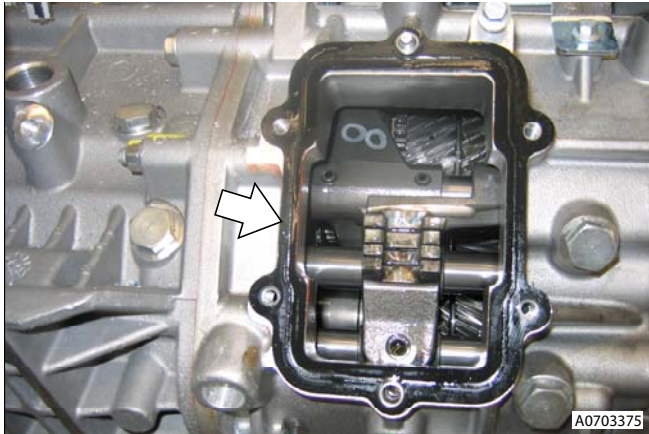

Figure 2
- Remove and discard gasket (see Figure 2).